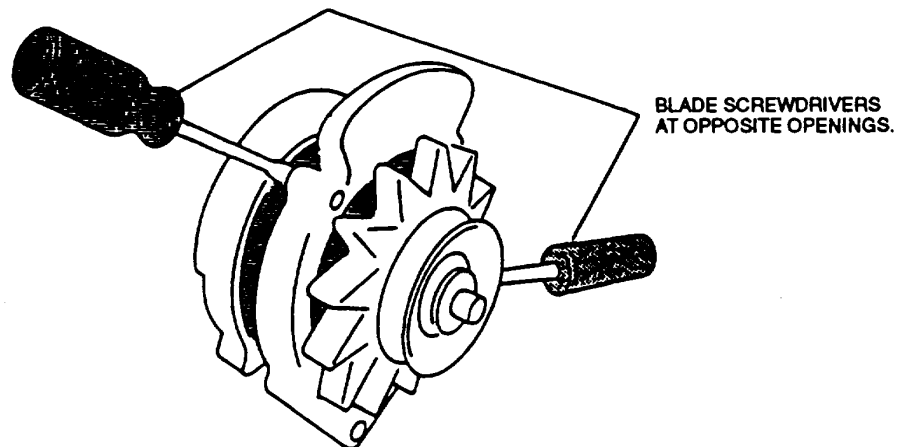

FIGURE 3-7. Stator and Rear Housing Separation
- g. Match mark front and rear housings, and remove through bolts (19). Insert two flat tip screwdrivers in opposite openings between stator (22) and rear housing (20), refer to FIGURE 3-7.